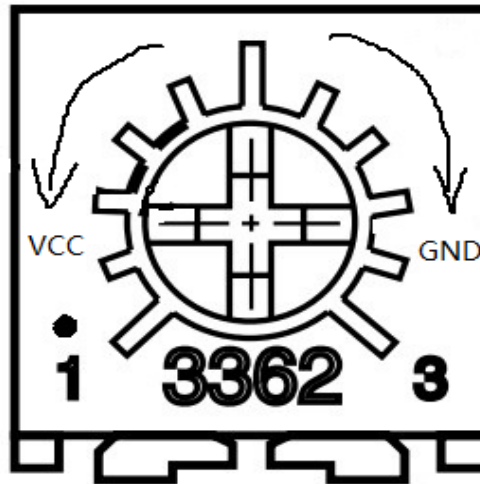

Figure 5
③ Potentiometer. Adjust the potentiometer to control the reference voltage within the appropriate range, the schematic of potentiometer is shown in Figure 5, each small grid represents 0.5V.